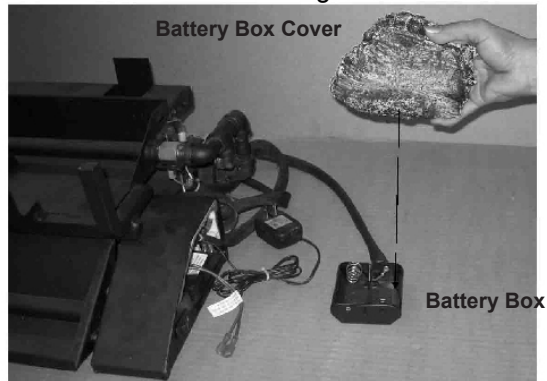

Figure 3 Battery Box and Cover (for IPI units only)
- IPI models include a battery box which holds 2 “D” size batteries. The battery box should be placed in the right front corner of your fireplace and covered with the log cover as shown in Figure 3.